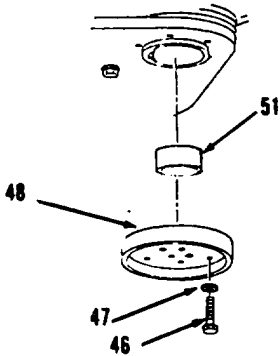

Figure 16-17.
5. Install spacer (51), plate (48), six bolts (46) and lockwashers (47, Figure 16-17).